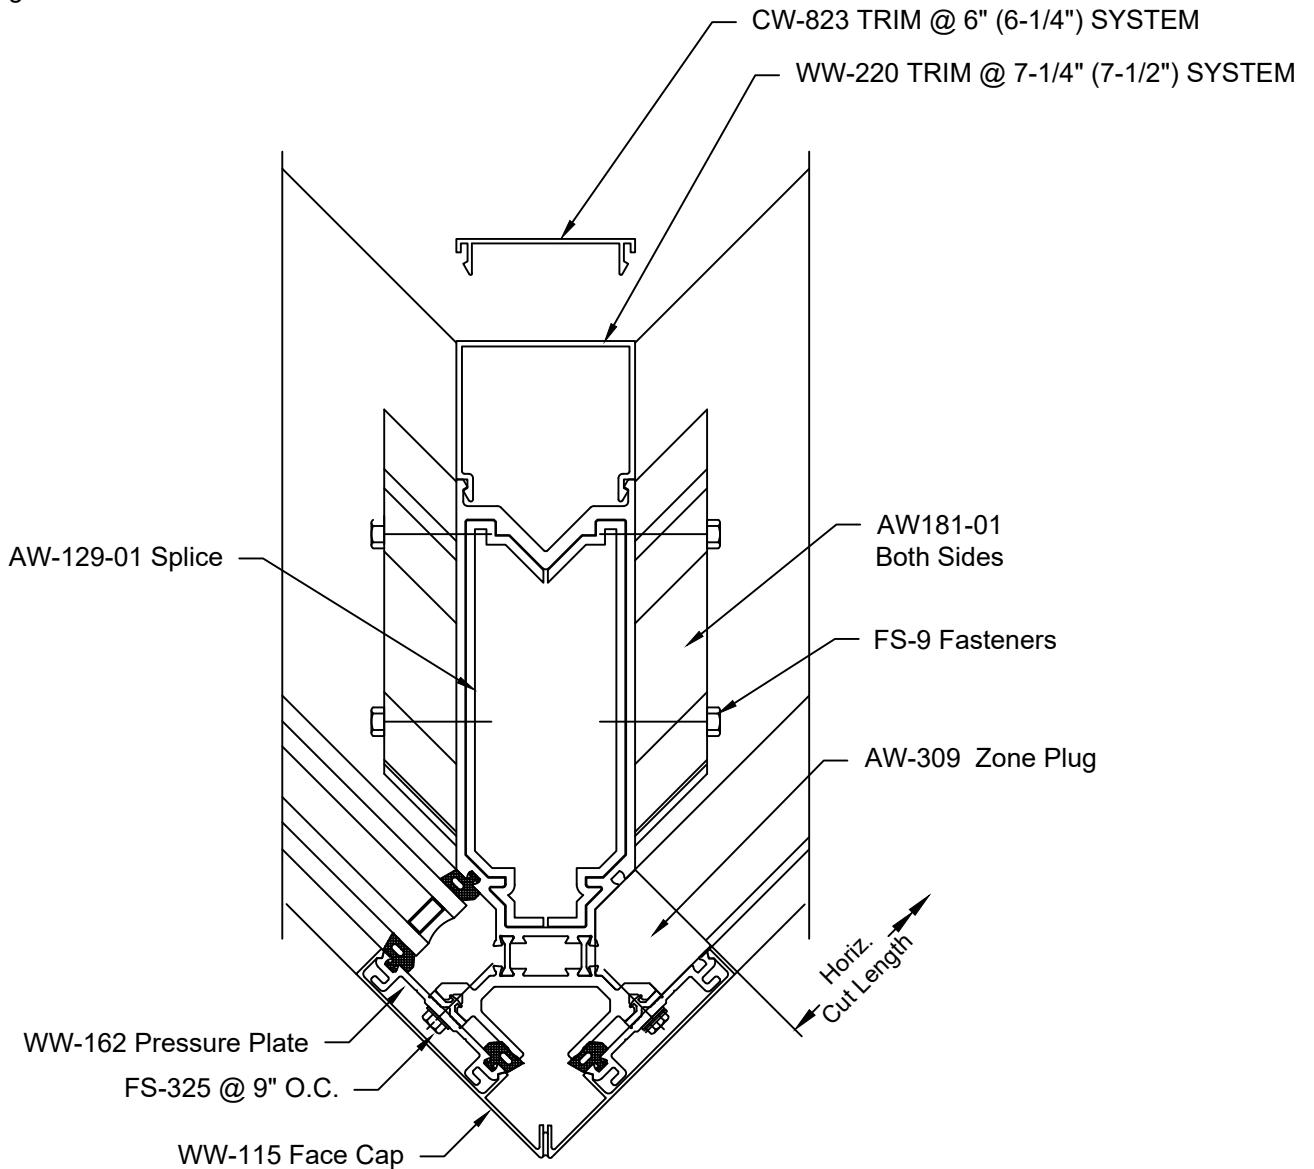

FIGURE 32
- 4.3 Attach AW-181-01 shear block to mullion using (2) FS-9 #14 x 1 1/2" HH STS. Horizontal to be mitered at 45 degrees from edge of vertical as shown in **FIGURE 32**.